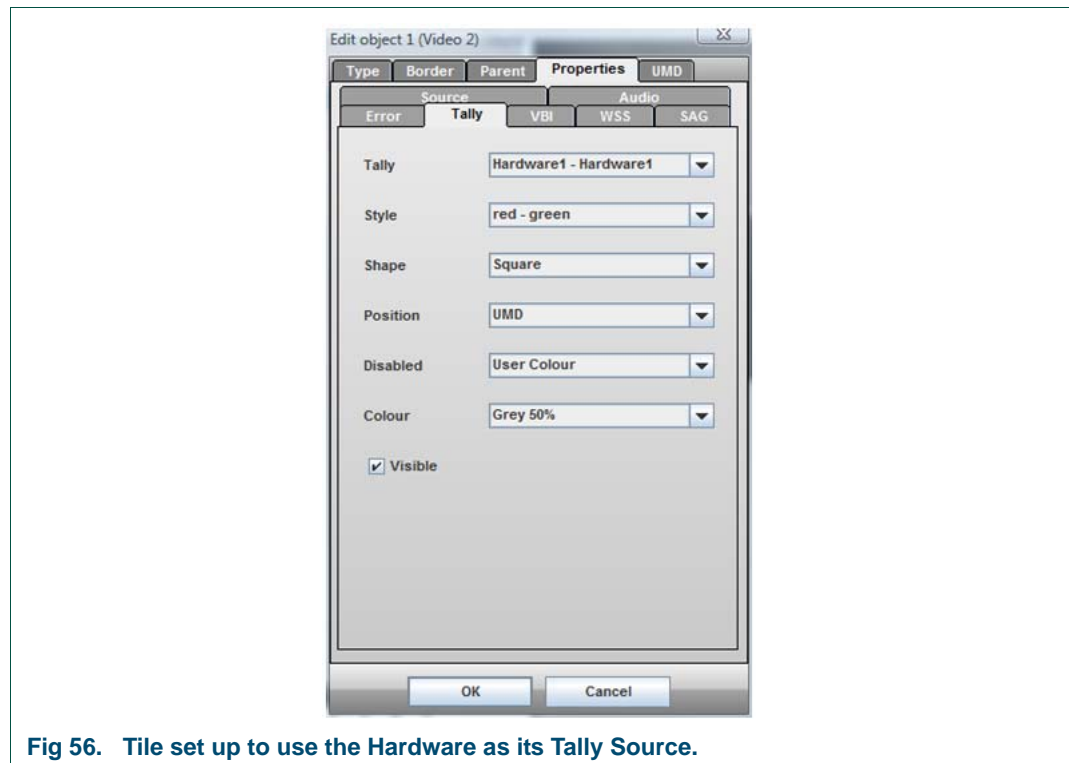

Fig 56. Tile set up to use the Hardware as its Tally Source.
5. The setup should now appear as shown in Fig 56.